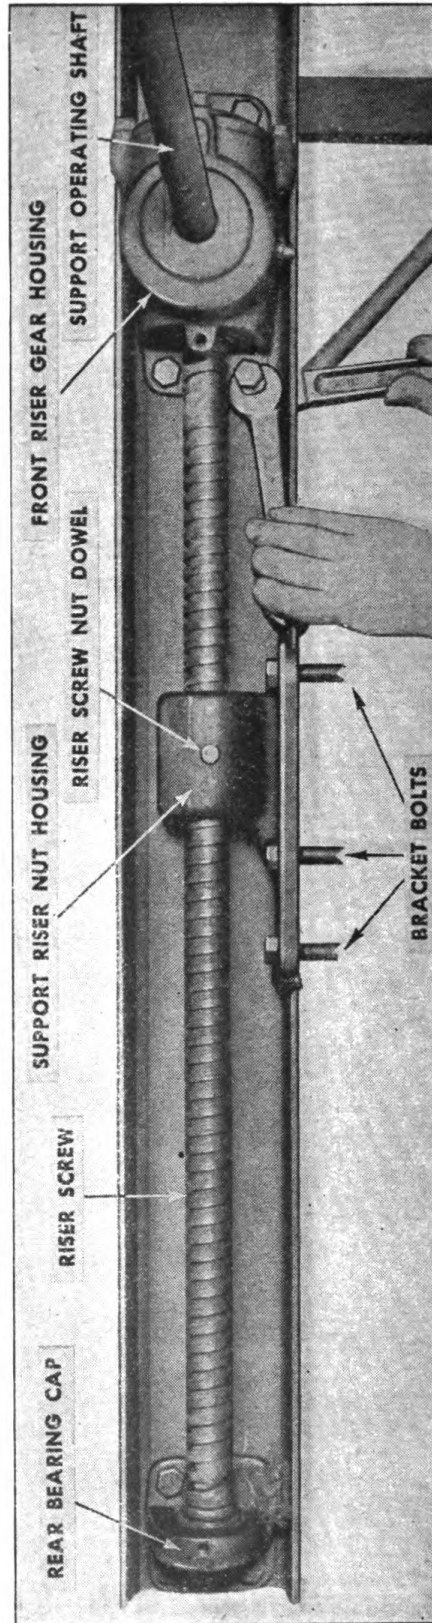

FIGURE 77. REMOVING GEAR HOUSING.
d. Remove the $\frac{3}{8}$ " bolt at outer end of operating shaft which holds shaft bushing to shaft brackets. Remove four bolts from gear housing (Fig. 77) and lift the complete assembly off I-beam.